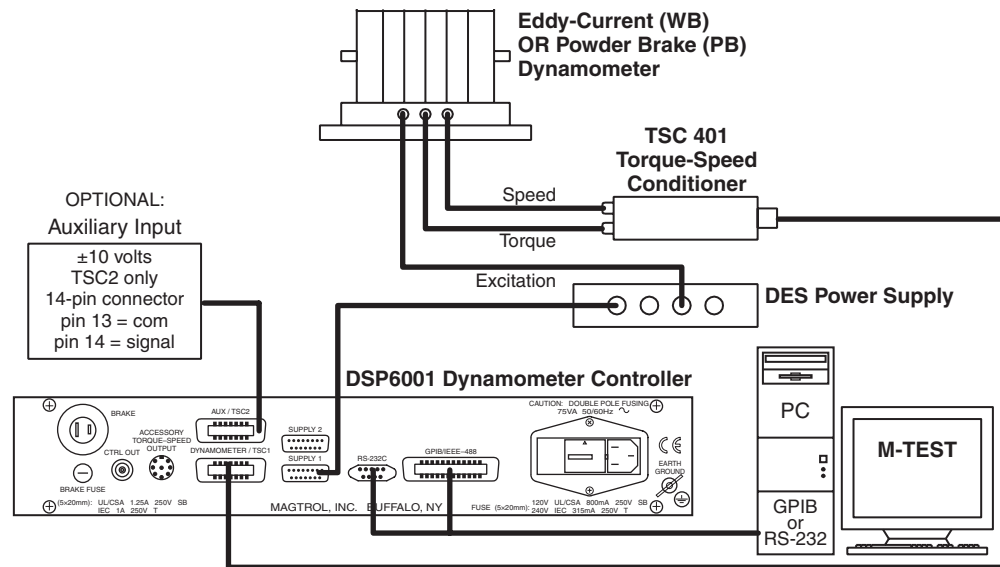

Figure 3–23 Eddy-Current or Powder Brake Dynamometer with Auxiliary Instrumentation Setup
10. Press SHIFT to complete the initial setup and return to the new main menu. See Figure 3–13 TSCI with TM2XX Output Menu.
4. Press SHIFT to get to the TSC1 eddy-current/powder brake setup menu. See *Figure 3–21 TSC1 Eddy-Current/Powder Brake Setup Menu*.
- 6.a. If using an Eddy Current Dynamometer, press SHIFT 2 times. The display should appear as shown in *Figure 3–19 Nominal Speed Setup Menu*. Press the AUX SETUP button and use UP ◀ and DOWN ▶ buttons and Decrease/Increase dial to set desired nominal speed. Press SHIFT 2 times to get to the Auxiliary Instrumentation Setup Menu as shown in *Figure 3–15*.